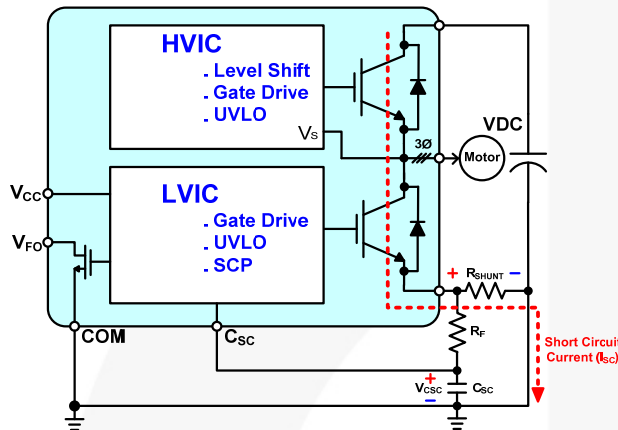

Figure 20. Example of Short-Circuit Current Protection Circuit with One Shunt Resistor
- The current-sensing shunt resistor should be connected between the low-pass filter before the pin C_{SC} and the low-side ground COM to detect short-circuit current (reference Figure 20).
Figure 20 shows an example circuit of the SC protection using one shunt resistor. The line current on the N-side DC-link is detected and the protective operation signal is passed through the RC filter. If the current exceeds the SC reference level, all the gates of the N-side three-phase IGBTs are switched to OFF state and the F_O fault signal is transmitted to MCU. Since SC protection is non-repetitive, IGBT operation should be immediately halted when the F_O fault signal is given.
An RC filter (reference R_{FCSC} in Figure 20) is necessary to prevent noise-related SCP (Short-circuit Current Protection) circuit malfunction. The RC time constant is determined by the applied noise time and the SCWT (Short-circuit Current Withstanding Time) of motion SPM products.